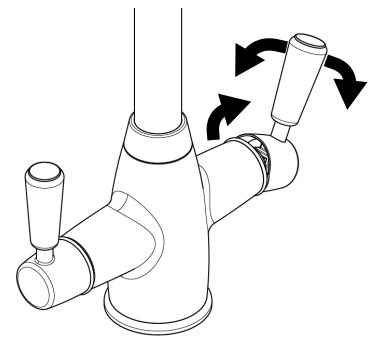

Fig 4.
- Hot & Cold (domestic) water - This is delivered when the right-side handle is tilted right (Fig. 4) to increase flow. Cold water is 45° backwards position becoming warmer as the handle is rotated forwards (Fig. 4).